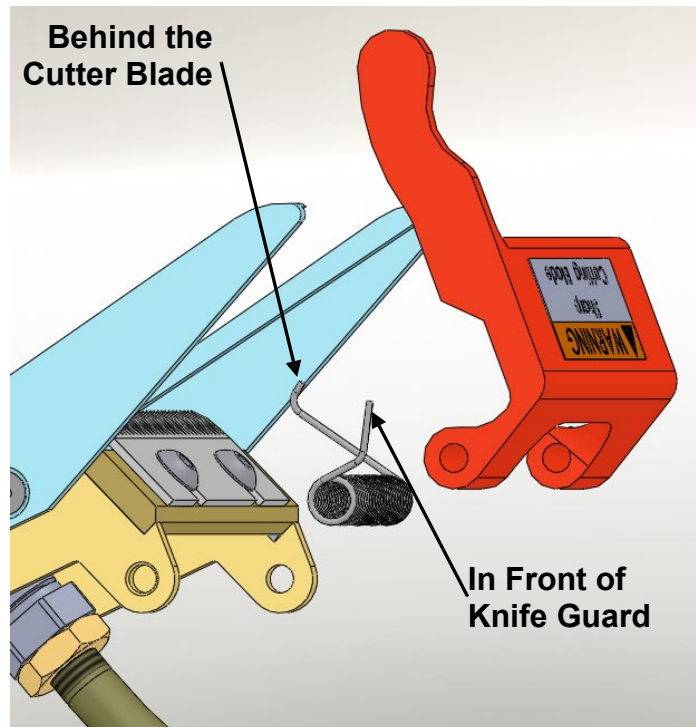

Figure 10-16
1. Position the new knife spring as shown in **Figure 10-16**.